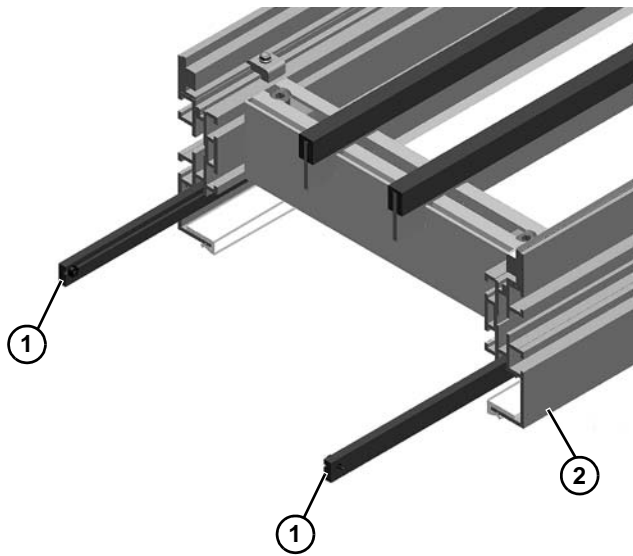

Figure 47
2. Slide tenting wear strips (Figure 47, item 1) into frame assembly (Figure 47, item 2) on discharge end of conveyor.